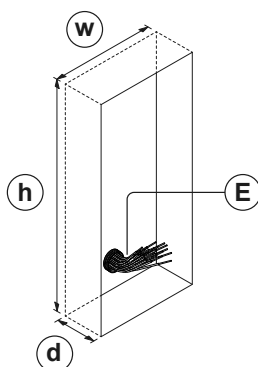

Fig. 64
2. Using the flush box (C) and the hole dimensions (**w=120mm x h=263.2mm x d=46mm**), as shown in **Fig.64**, use appropriate tools to cut out the recommended hole size in the wall (where required it may be necessary to wear the appropriate clothing, e.g. protective gloves and eye protection, when doing this). Remember to allow room for the connecting cables (E) (**Fig.64**);